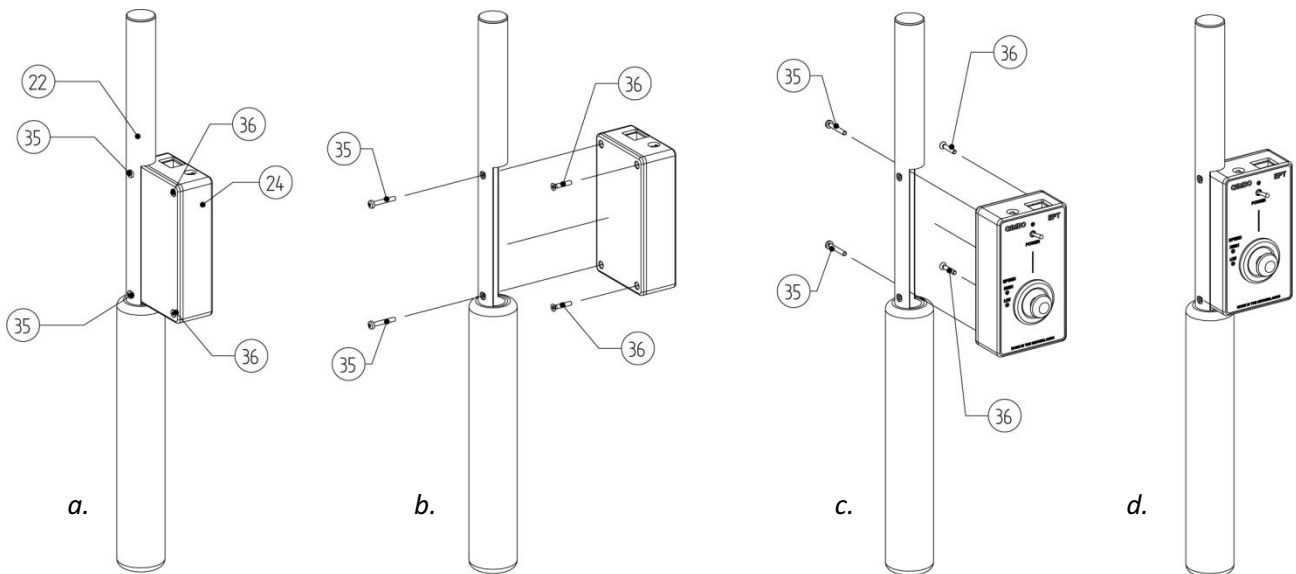

figure 9: Change orientation of the EPT remote control unit
The control unit (24) can be assembled for right and left handed use. The default (factory) configuration is set for right handed use. To change between these configurations please note figure 9;